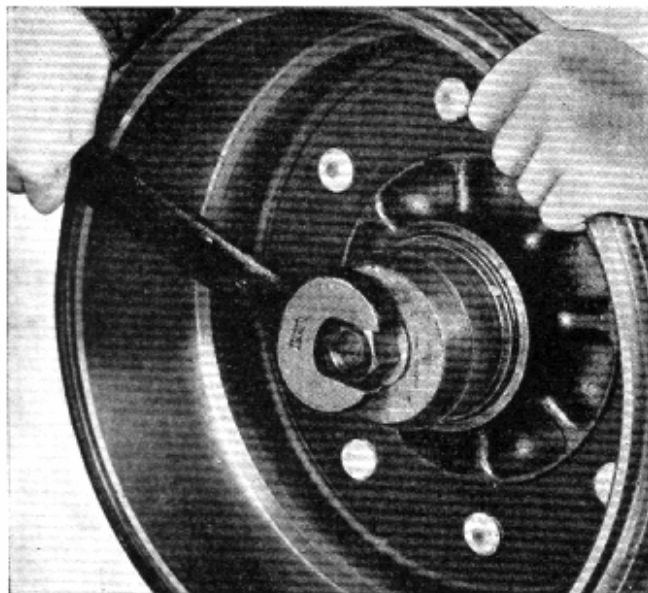

Fig. 31—Using Tool No. X-1239-B Inverted to Install the Grease Slinger and Oil Seal
3. With special tool X-1239-B install the inner grease retainer and oil slinger as shown in Fig. 31.